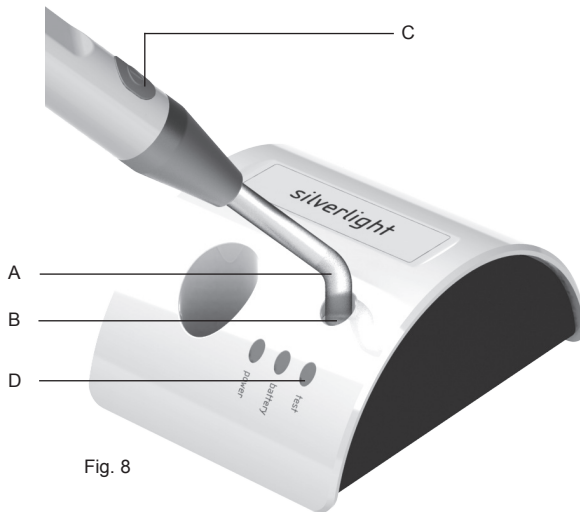

Fig. 8
- 1 Place the fiber optic (Fig.8 - Ref.A) flat on the surface of the light-intensity sensor without pressing it (Fig.8 - Ref.B);
- 2 Press the button (Fig.8 - Ref.C) to switch on the lamp.